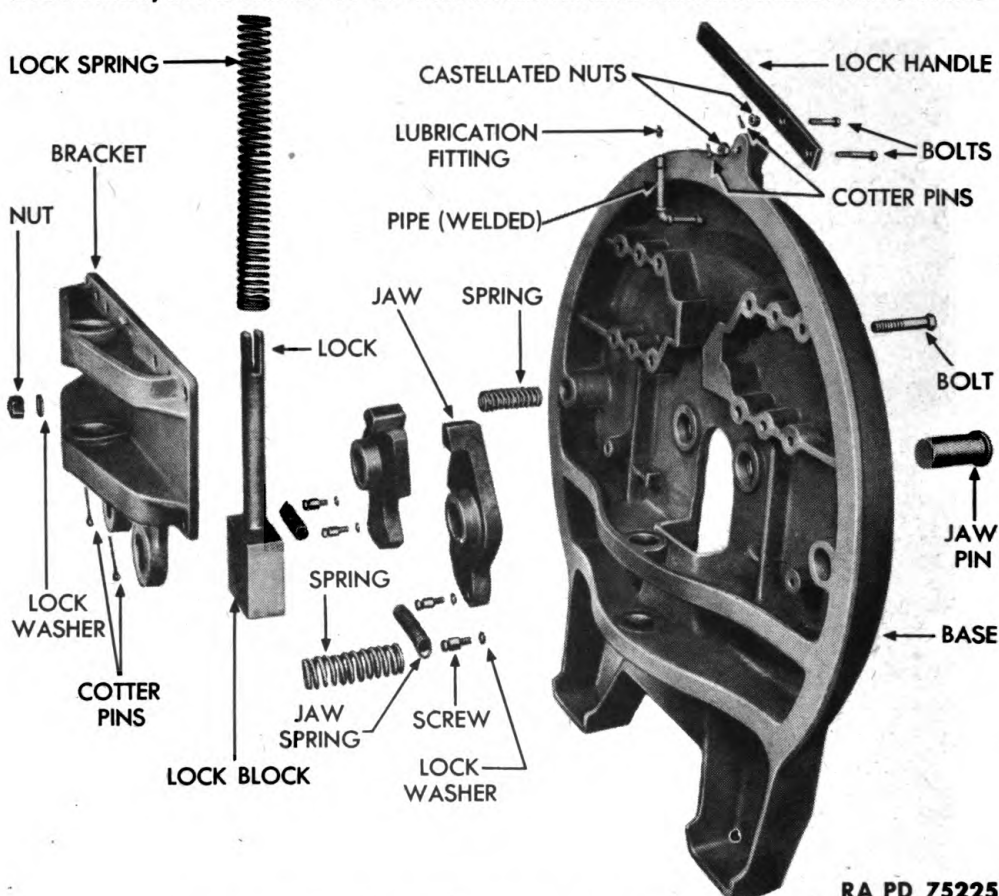

Figure 54 — Fifth Wheel Base — Disassembled
(3) **REMOVE LOCK HANDLE AND BLOCK** (fig. 54). To gain access to the bolt which holds the lock handle to the lock, place wooden block back of lock block and rod. Remove cotter pin, castellated nut, and bolt which holds handle to lock. Remove bolt, nut, and lock washer which secures handle to base, and remove handle. Remove block, lock, and lock spring.
(1) **INSTALL LOCK BLOCK AND HANDLE** (fig. 54). Install spring on lock block and rod, and use wooden block to wedge lock, with spring attached, through hole in base. Attach lock handle to rod by installing bolt, castellated nut, and cotter pin. Secure handle to base by installing a bolt, nut, and lock washers.
(2) **INSTALL JAWS** (fig. 54). Pull out handle, and place jaws in position. Lift handle end of base, and install jaw pins from top side of base, and secure jaw pins with cotter pins. Insert 12 bracket bolts through base from top side.
(3) **INSTALL BASE BRACKETS** (fig. 54). Lift bracket into position over bolts, then install 12 nuts and lock washers which secure bracket to base. Install two jaw springs by installing two springs and two spring screws and lock washers for each spring. One end of spring is secured to a jaw and other end to base.